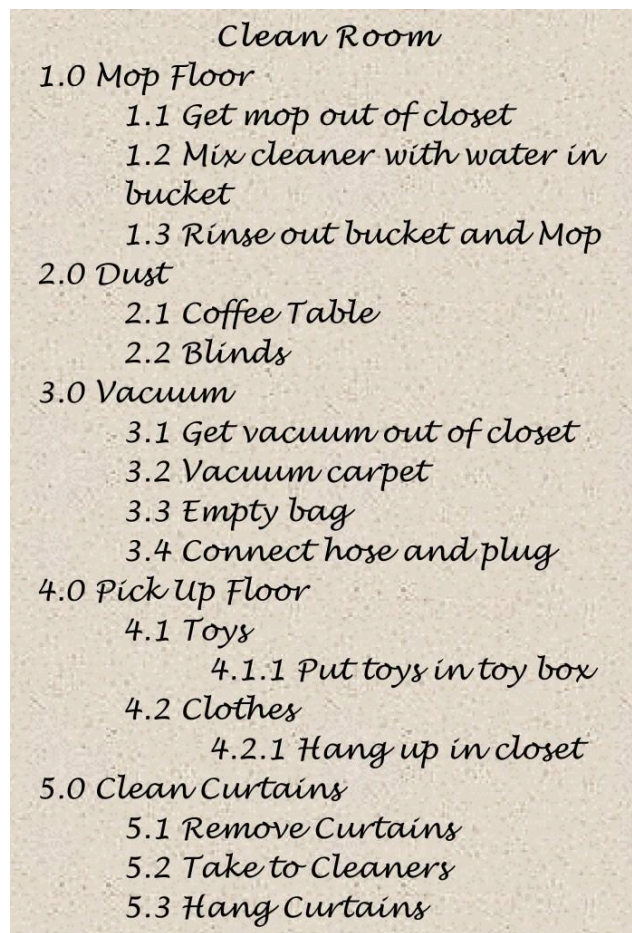

Figure 8.3: Clean Room in an outline view.
- Figure 8.3 WBS Outline – Clean Room © Barron & Barron Project Management for Scientists and Engineers is licensed under a CC BY \(Attribution\) license